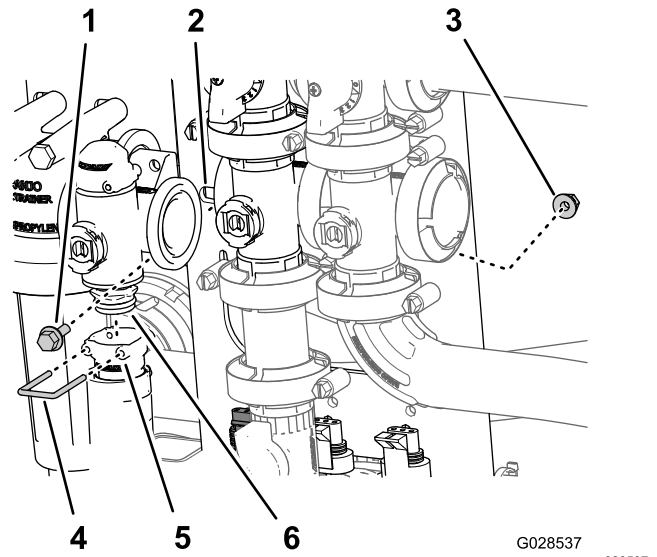

Figure 49
2. Remove the retainer that secure the outlet fitting to the manifold for the rate control valve (Figure 49).
3. Remove the 2 flanged-head bolts and 2 flanged locknuts that secures the rate control valve to the valve mount and remove the valve manifold from the machine (Figure 49).